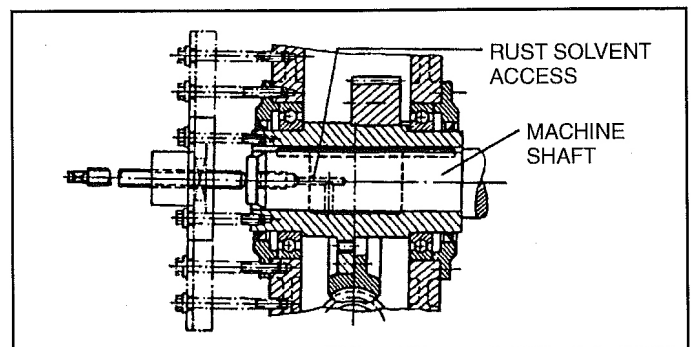

Figure 9
- Use a fixture as shown in Figure 9 for pulling the unit off the shaft - NEVER HAMMER. Insert the fixture bolts in the threads of either the hollow shaft, housing, or bearing cover, as required. A hydraulic device can also be used.